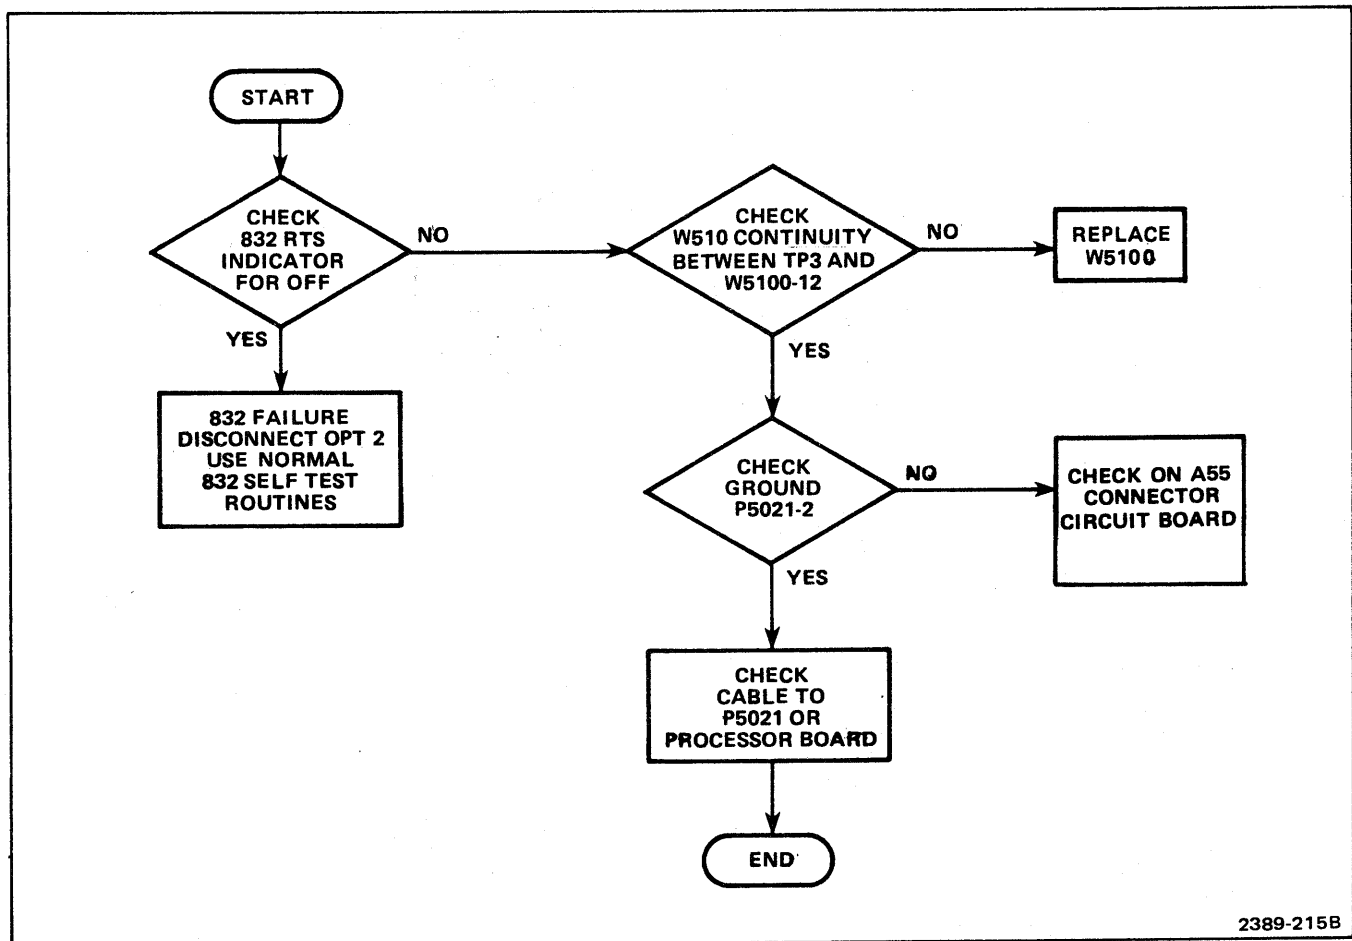

Figure Option 2-11. Troubleshooting Chart 3.
9. If you do not obtain the expected indication in step 8, proceed to Figure Option 2-11, Troubleshooting Chart 3.